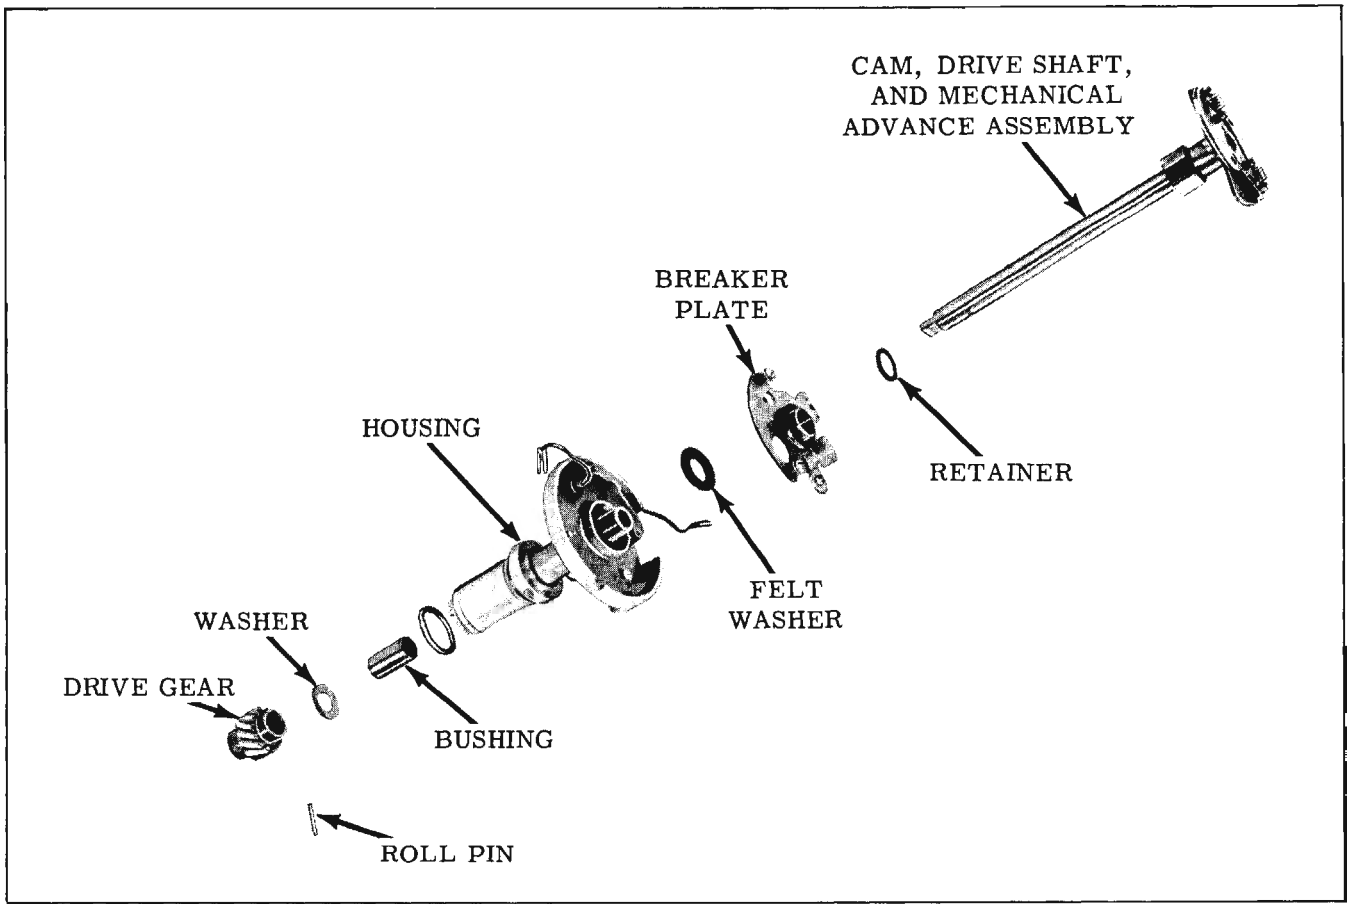

Fig. 14-133 Distributor Assembly
6. Remove the shaft retaining ring from the upper bushing and lift the breaker plate and felt wick from the bushing. (Fig. 14-133)
2. Place the felt wick on the upper bushing, then place the breaker plate over the upper bushing and vacuum advance link. (Fig. 14-133)